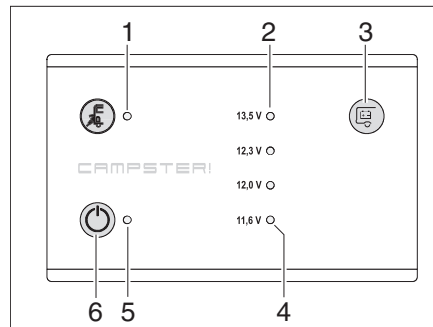

Fig. 74 Panel LT 104
With the sensor touchpad (Fig. 74,3) the battery voltage of the living area battery can be displayed.
The indicator LEDs (Fig. 74,2) displays the battery voltage.
- Red warning indicator LED (Fig. 74,4) lights up: Battery voltage above 11.6 V
The red warning LED (Fig. 74,4) lights up as soon as the voltage of the living area battery only still amounts to 11 V (measured under operation) and there is a risk of a total discharge.
The 12 V main switch (Fig. 74,6) switches the panel and the 12 V power supply of the living area on and off.
Switching on: ■ Touch sensor touchpad (Fig. 74,6): The 12 V living area power supply is switched on. The 12 V indicator lamp (Fig. 74,5) lights up green.
Switching off: ■ Touch sensor touchpad (Fig. 74,6) again: The 12 V living area power supply is switched off. The 12 V indicator lamp (Fig. 74,5) goes out.
The 12 V indicator lamp (Fig. 74,5) illuminates whenever the 12 V main switch (Fig. 74,9) is switched on.
The yellow 230 V indicator lamp (Fig. 74,1) lights up whenever line voltage is available at the transformer/rectifier input.